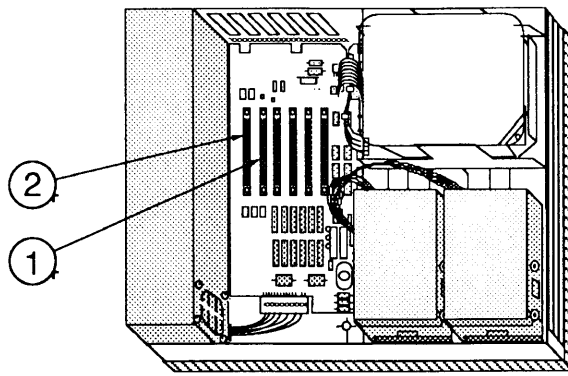

Figure 3-5
6. Install the NuBus master card in the second slot (Figure 3-5, #1) from the power supply of the UUT. The card **must be** installed in slot 2 to work correctly. The video card should be in slot 1 (Figure 3-5, #2).